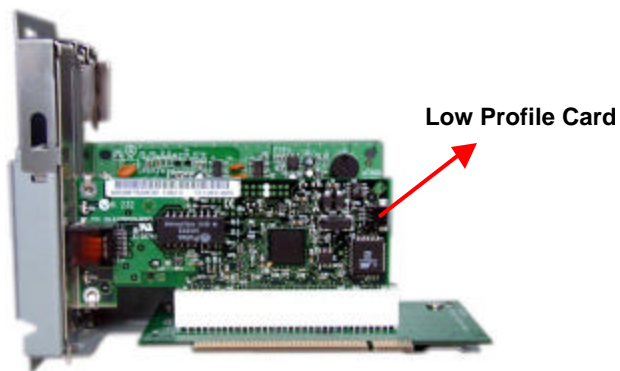

Figure 3.8.3
- iv. Slot the expansion card into the connector on the riser card, and please insert the Low Profile Card into the PCI3 slot, as shown in [Figure 3.8.3].